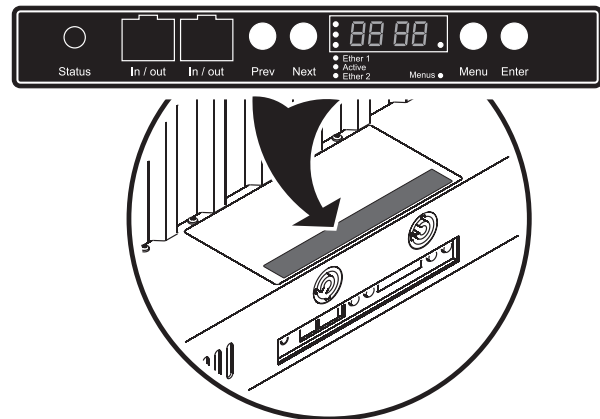

Figure 5
11. See Figure 5. Stick the connections/control panel key label supplied in the Upgrade Kit onto the LC panel base as illustrated.